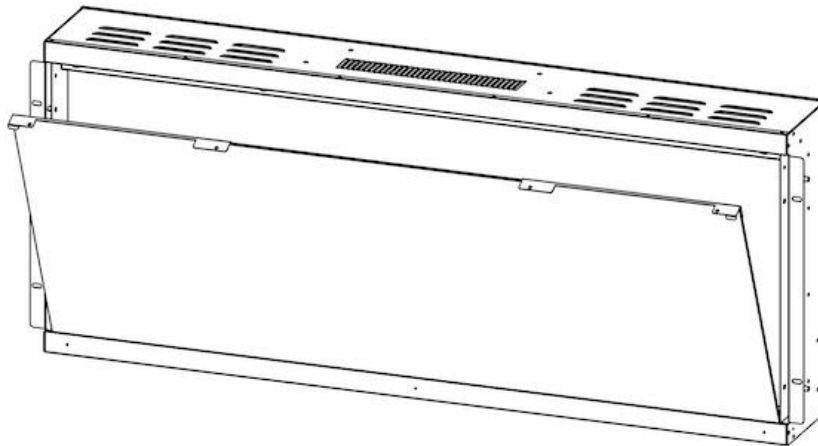

Fig. 2-2
- B. Carefully lift the front glass up and away from the appliance. Place it face down on a soft, non-abrasive surface. (Fig. 2-2)